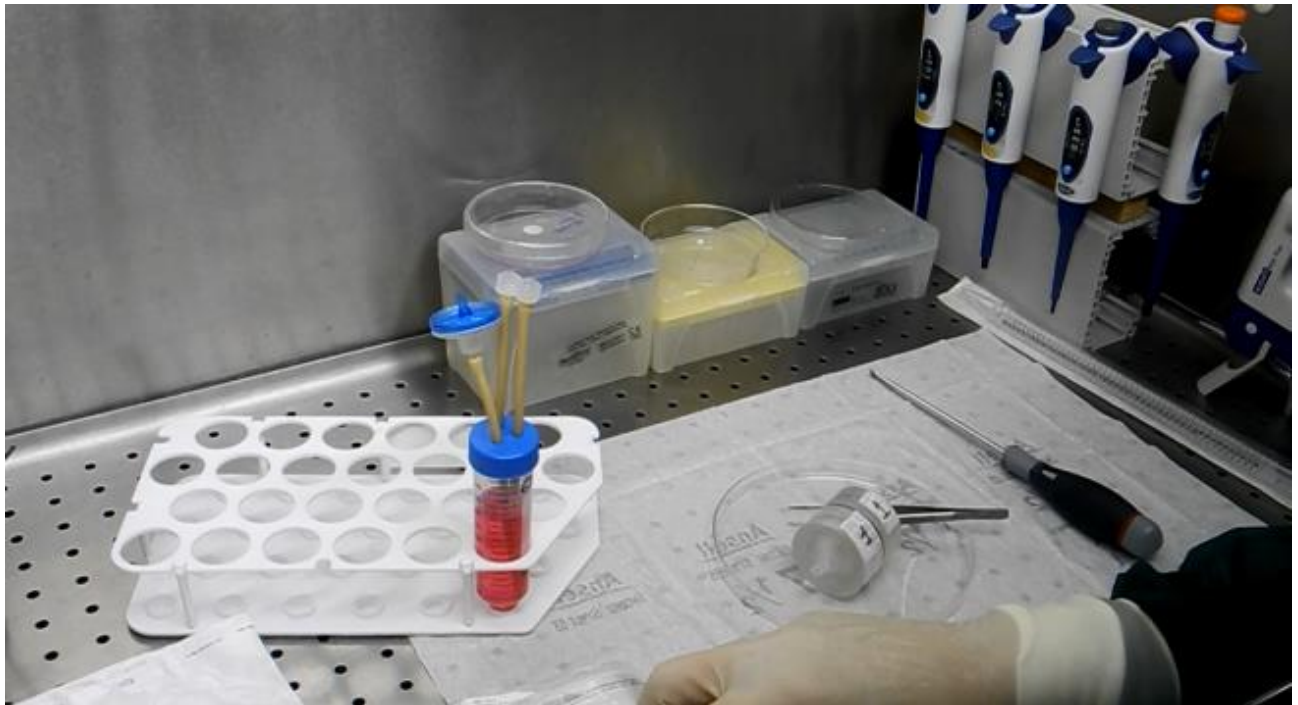

Figure 7
- Fill the reservoir with 40 mL of complete culture medium. Lock the reservoir. Connect a sterile filter to the shorter tube of the reservoir (Figure 7).